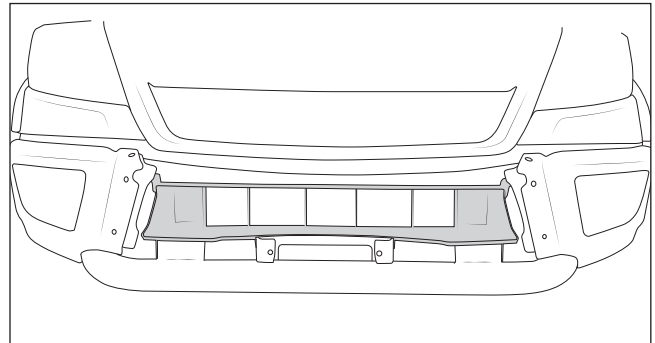

Figure 5
5. Remove the 12 push clips attaching the air diverter (fig. 5).